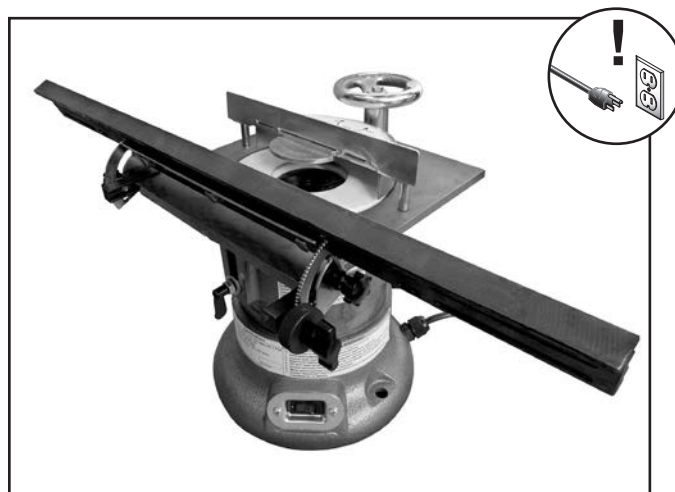

Figure 18. Pivot support and slide table assembly properly attached to the grinder.
5. Re-attach the pivot support to the grinder table so that the flat surface of the slide table is facing the wheel, as shown in **Figure 18**.